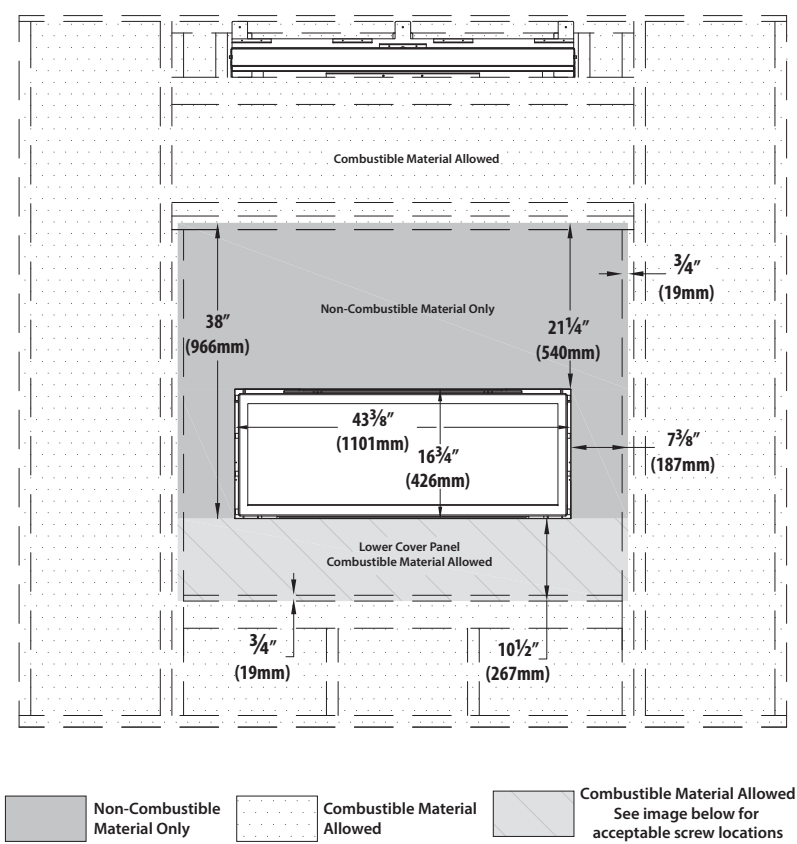
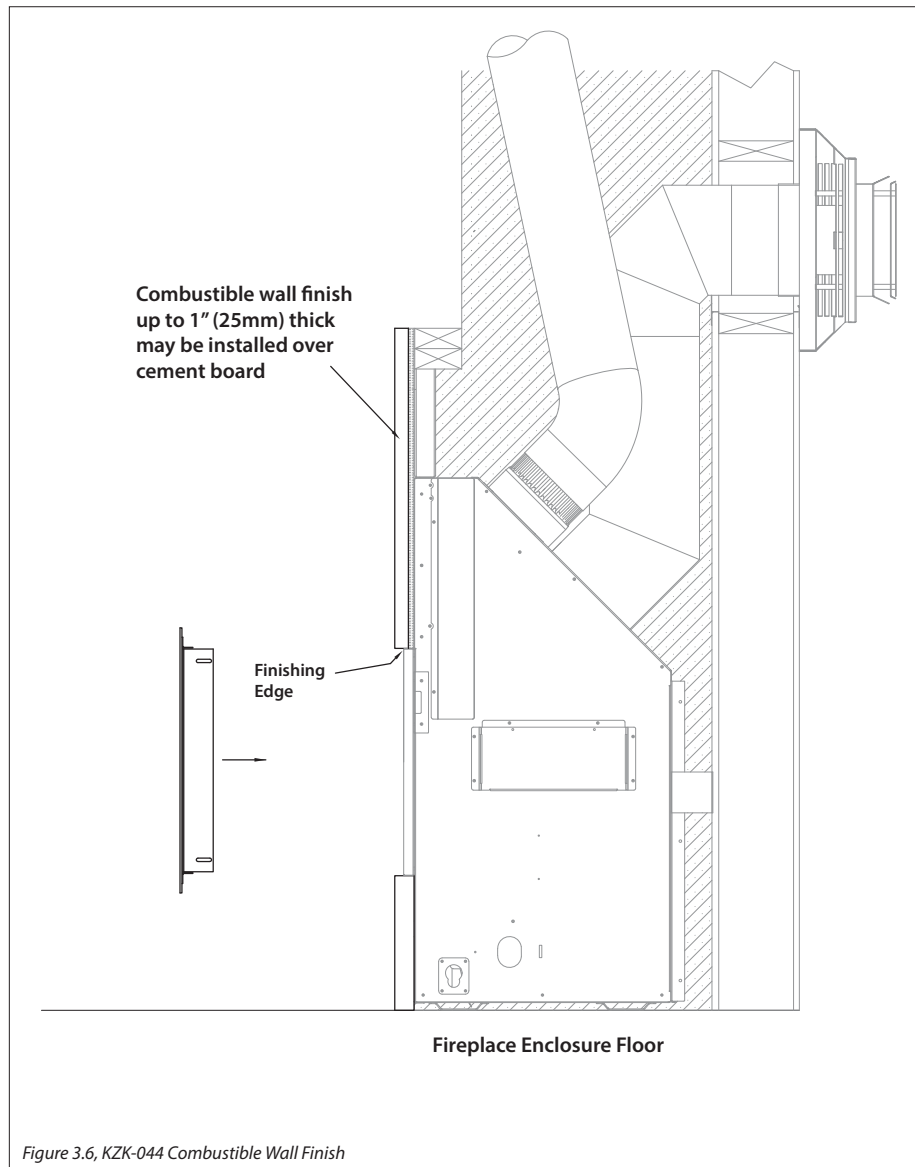

Figure 3.1, Minimum Non-combustible Finishing Dimensions
Figure 3.6, KZK-044 Combustible Wall Finish
- Figure 3.6 shows installation of combustible wall finish up to 1" thick. This combustible material goes on any required non-combustible materials as shown in Figure 3.1 on page 10.